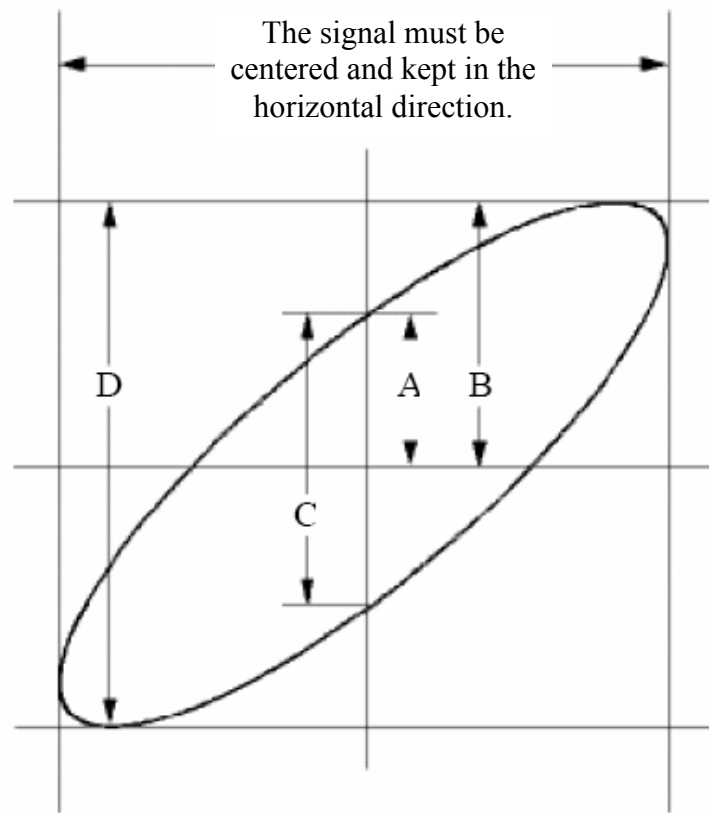

Fig.6-6 Lissajous Graph
9. With the elliptical oscillogram method adopted, observe and calculate the phase difference (see **Fig.6-6**).